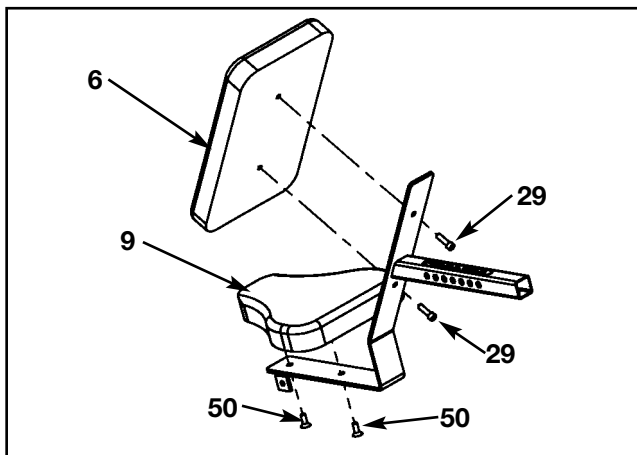

Figure 27
- E.** Install seat and back cushions as shown in Figure 27.
- H. Secure cushion assembly using SHCS and hex nut (removed from step 10C). See Figure 27.